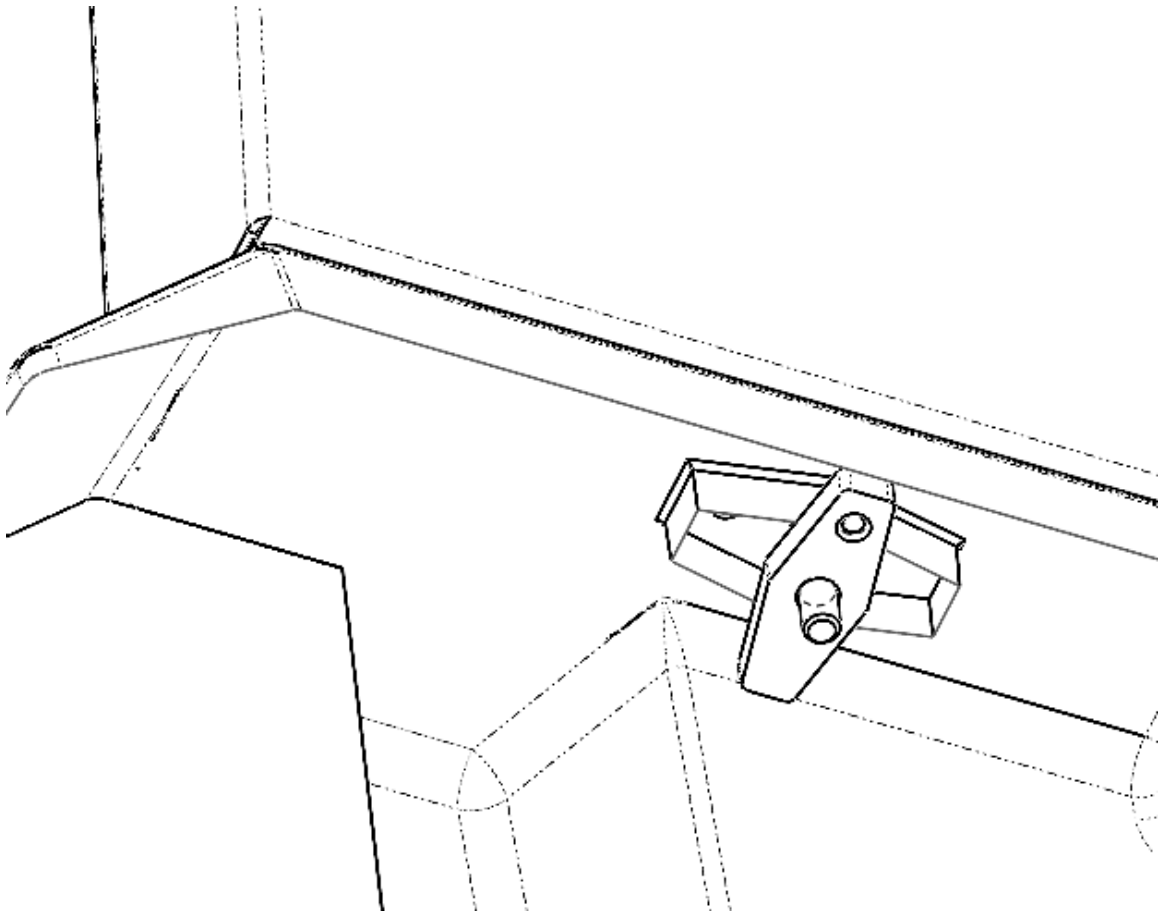

Figure 5: Diamond anchor shown secured to bed (outside plastic wall of bed hidden for clarity).
3. Remove the Phillips screw from each diamond anchor and allow the anchor to fall until the 1/4-20 bolt catches it. The Phillips screws can be discarded. Rotate the 1/4-20 hex head bolt by hand 90 degrees, then lift up until you feel the diamond anchor grab the bottom of the bed rail. Finger tighten the screw while maintaining upward pressure until the anchor is in contact. With the outside walls lined up with the top of the bed, torque each 1/4-20 bolt to approximately 8 ft*lbs. The friction on the anchor will keep it in place once finger tight. See Figure 5.